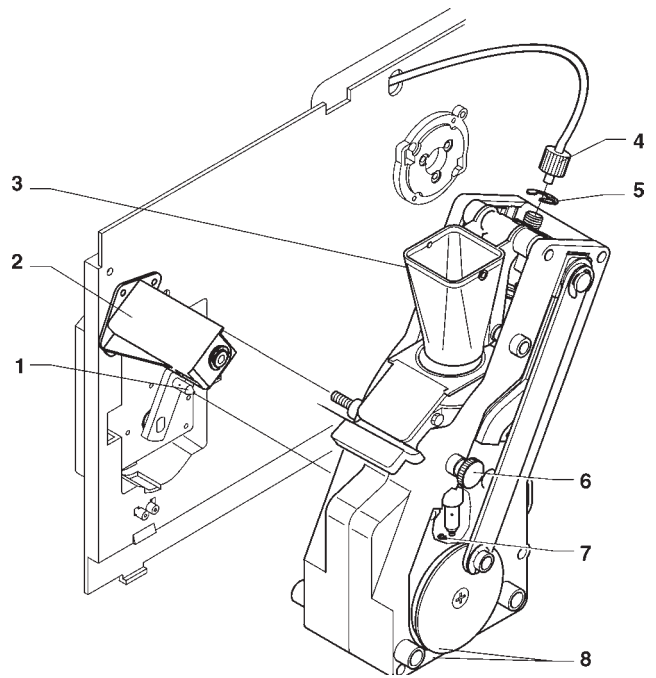

Fig. 22
- remove the boiler Teflon hose connection from the upper piston, paying attention not to lose the seal (see Fig. 22);
- Loosen screws A and B enough to release the coffee funnel (see fig. 22);